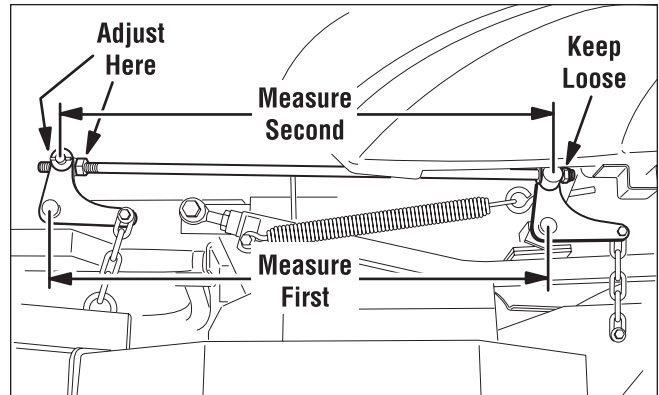

Figure 39. Measure & Adjust Lift Rod Timing
3. To check the lift rod timing, measure and record the distance between the lift pivots and the rod pivots. Repeat for other side of unit. See Figure 39.
5. Refer to Figure 39. To adjust the lift rods, adjust the 5/8" hex nuts on either side of the front lift pivot until the measurements are equal. Repeat for other side. Make sure the nylon lock nut on the end of the rod towards the rear of the machine is loose to allow the rod to turn in the rear lift pivot.